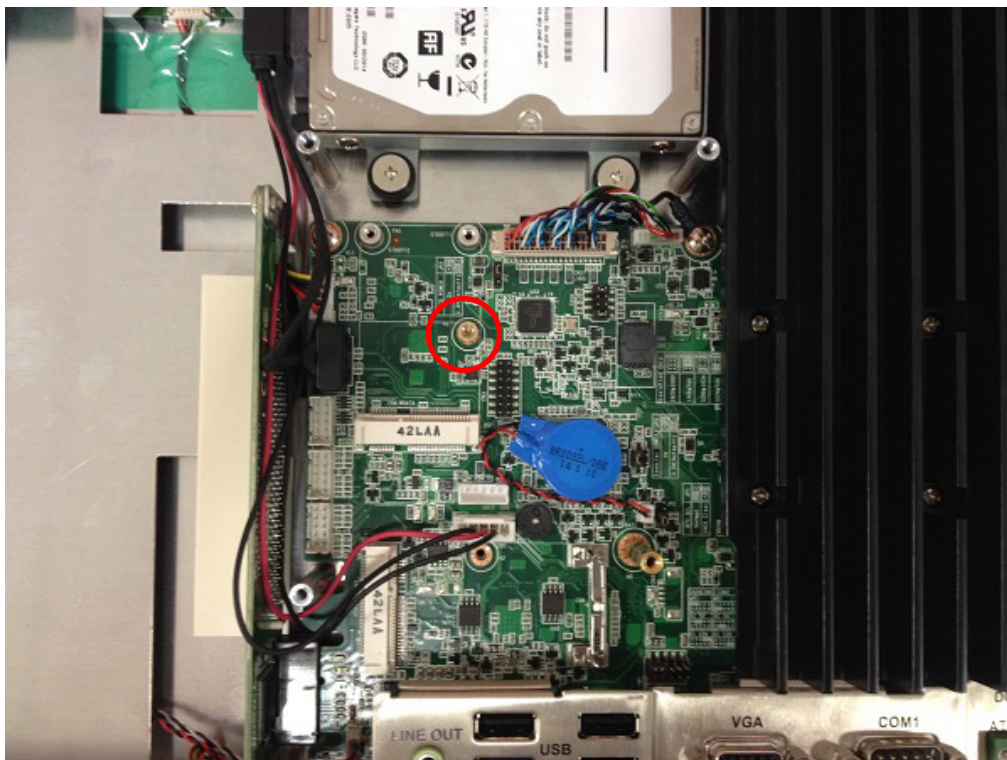
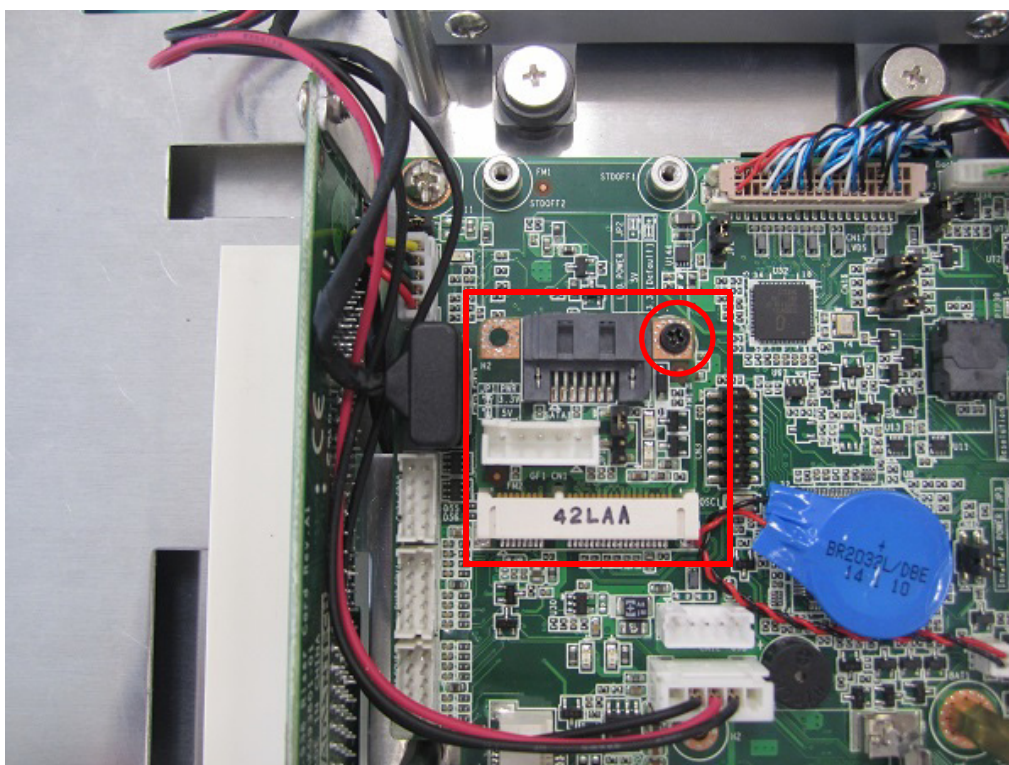

Figure 2.41
Figure 2.42
5. Retrieve a copper cylinder screw from the accessory box and affix it to the SATA micro ATX board in the position circled in red in Fig. 2.41. Then use a screw to secure the mini SATA to the SATA micro ATX board (the position is indicated with a red rectangle in Fig. 2.42).